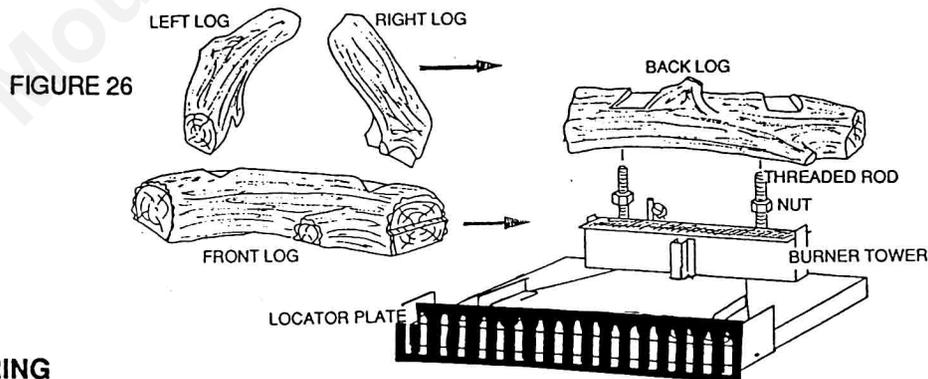

FIGURE 26
1. Place the large straight back log on to the threaded rods. A space of 1/4" should be maintained between the log and the flame sensor. Adjust if necessary with nuts provided. (Figure 26)
2. Place large curved front log on to main burner between the locator plates and the burner tower. The left and right spacing between the log ends and the burner ports should be equal. (Figure 26)
3. Set the right and left smaller logs into the pockets and grooves of the front and back logs, respectively. (Figure 26)
1. Make sure logs sit on burner properly (Fig. 26).